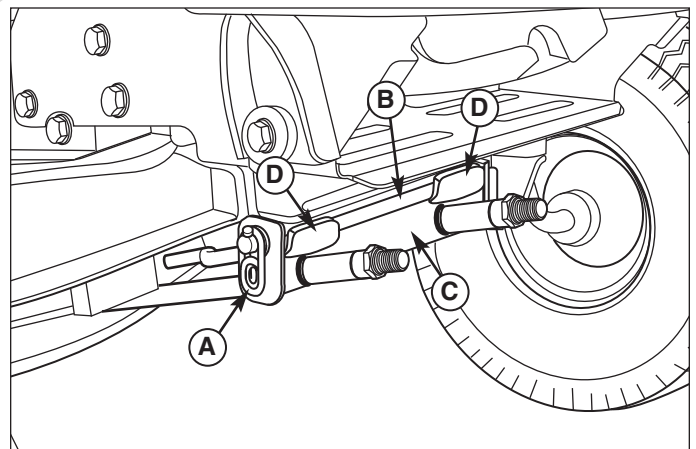

Figure 6. Mower Hitch
6. Turn wheels straight ahead. Support the mower hanger (C). Remove safety clip (A, Figure 6) and rod (B). Lower the mower hanger (C).
5. Move idler arm (A, Figure 6) to relieve belt tension. Install belt onto the PTO pulley (B).